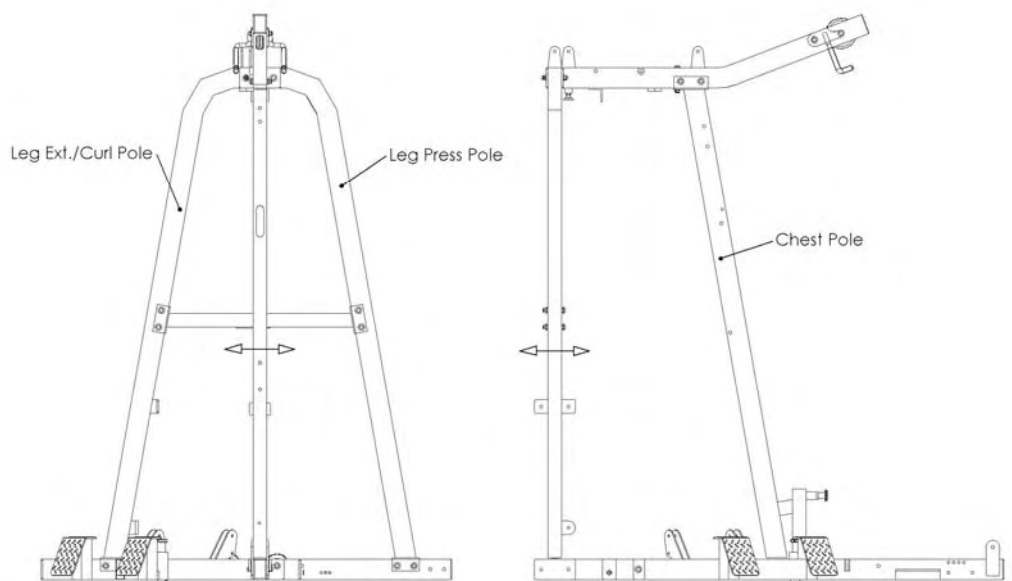

Figure 5
- **Align** the Leg Press Pole, the Leg Ext/Curl Pole and the Chest Pole so that they each are plumb and standing up vertically as shown in Figure 5.